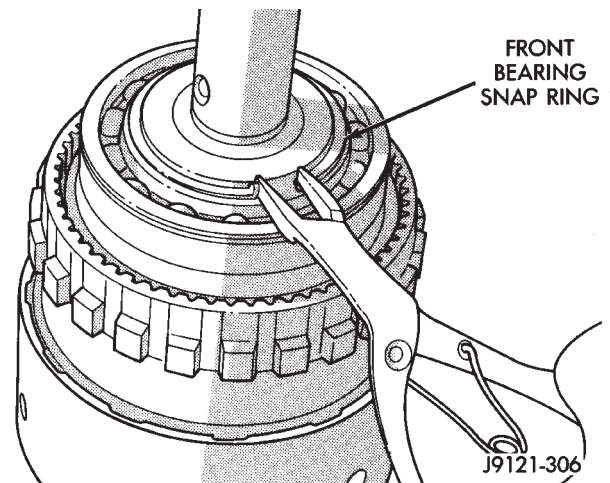

Fig. 20 Removing/Installing Front Bearing Snap Ring
- (5) Remove output shaft front bearing snap ring (Fig. 20).